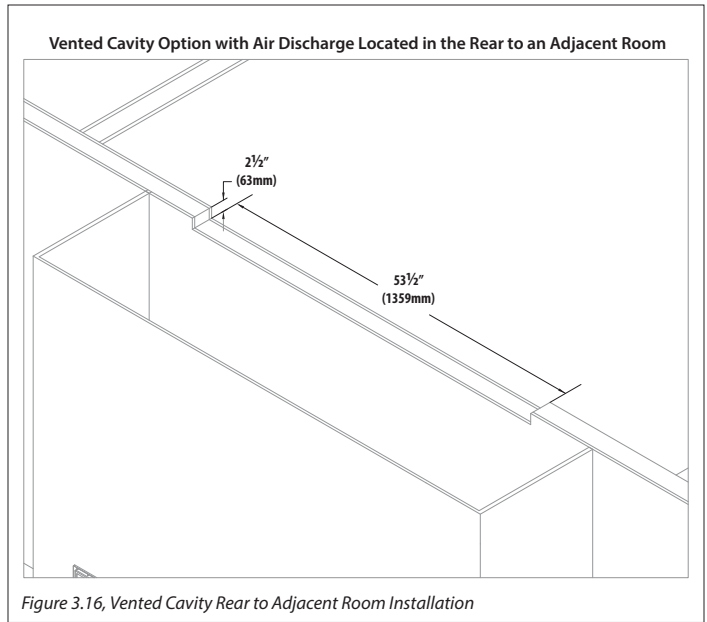
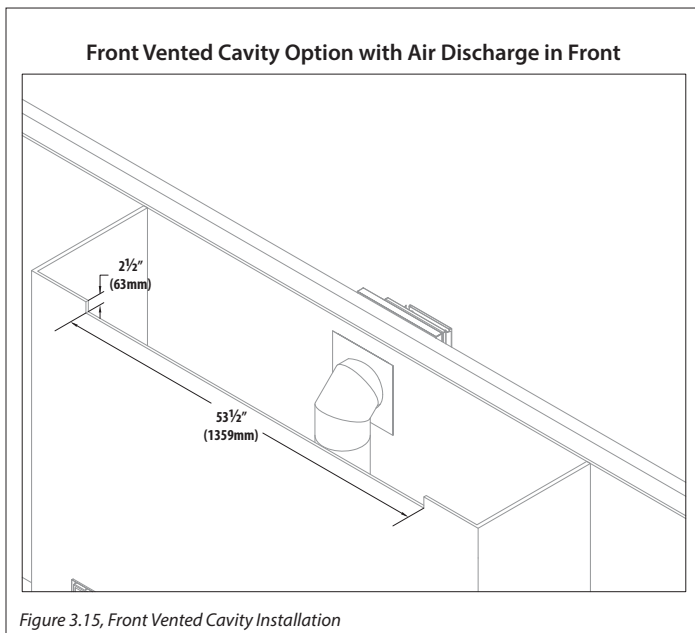

Figure 3.16, Vented Cavity Rear to Adjacent Room Installation
Figure 3.15, Front Vented Cavity Installation
- Figure 3.15 shows the minimum required dimensions for the vent cavity air discharge opening. This single 2-1/2" x 53-1/2" air discharge opening can be in either the front of the fireplace chamber, so hot air exits into the room the fireplace is installed, or the discharge opening can be in an adjacent room where the discharge opening would be located on the rear of the fireplace chamber. See Figure 3.16.